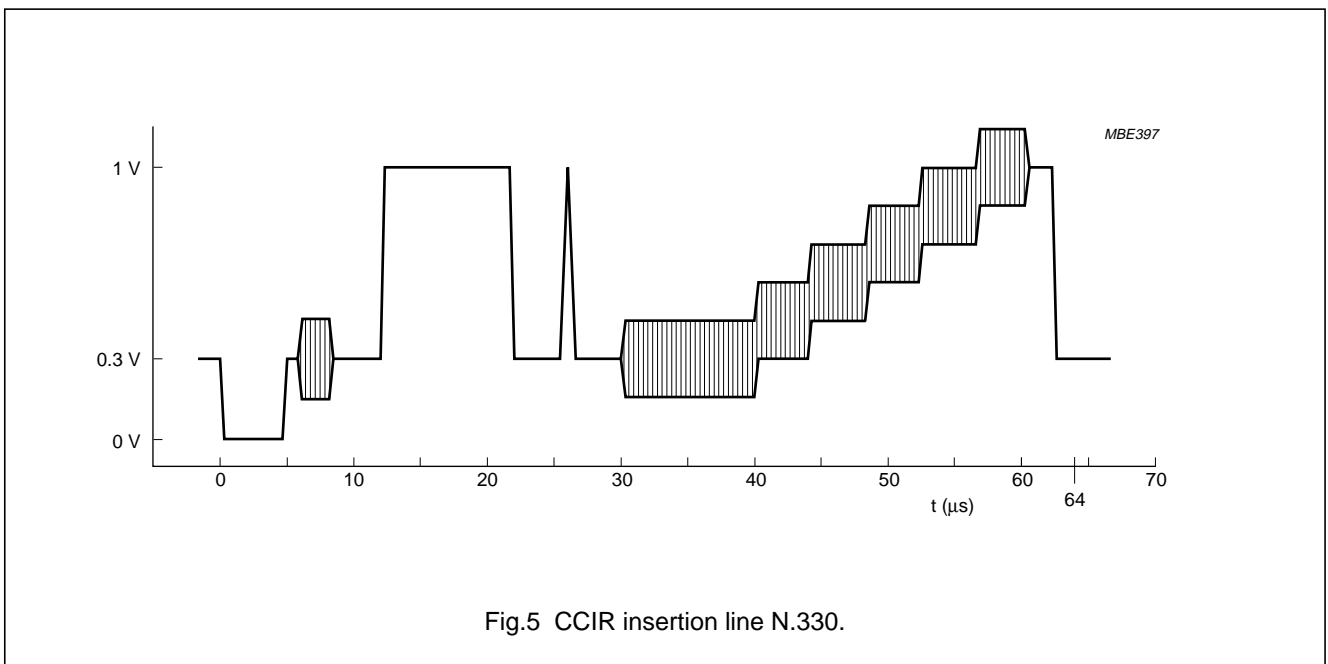

Fig.5 CCIR insertion line N.330.
- Measured for PAL G standard on 4 first steps of CCIR 330 line, corresponding to a 5 step staircase with 300 mV (peak-to-peak value) chrominance carrier when the level between synchronization pulse and white is 1 V; see Fig.5.